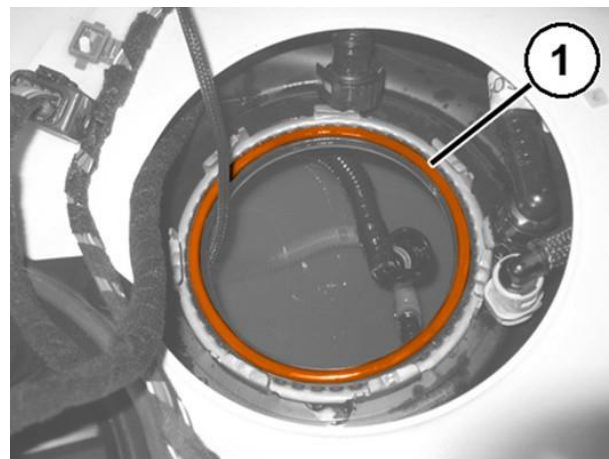

Figure 12 – Fuel Pump O-ring
22. Remove the O-ring (1) from the tank opening (Figure 12).
26. Disconnect the wire harness connector (2a) (Figure 12).